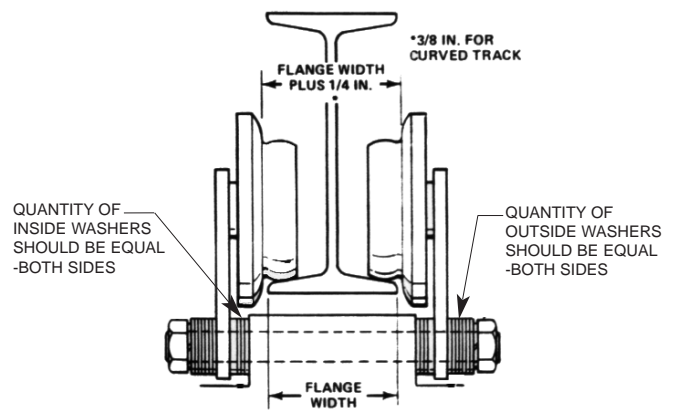
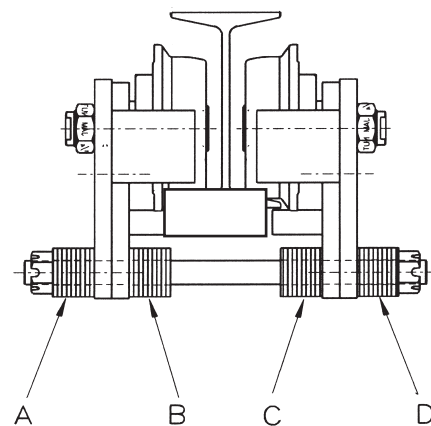

Figure 1.
Figure 2.
1. Measure the actual width of the beam flange on which the trolley is to operate. To determine proper trolley side frame spacing to assure that adequate wheel clearance is provided, the distance between the beam flange and the inside face of the trackwheel flange (approximately 1/8 to 3/16 inch on straight runway beams, 3/16 to 1/4 inch on curved beams for 2 ton units. See Figure 2 -page 7 and 1/4 inch for straight runway beams, 3/8 inch on curved beams for 3 thru 7 1/2 ton units. See Figure 1 - page 7).